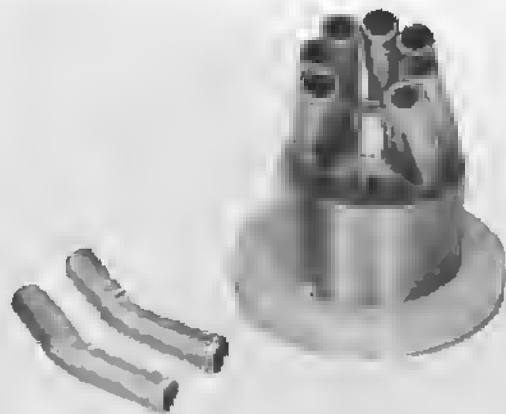

Figure 9 - Assembling Sleeves in Driven Block
3. Note which two pads on the assembly fixture are the shortest and insert seven sleeves in all the holes in the cylinder block except these two as shown in Figure 9. For ease of assembly, the sleeves should be lubricated with clean light oil.